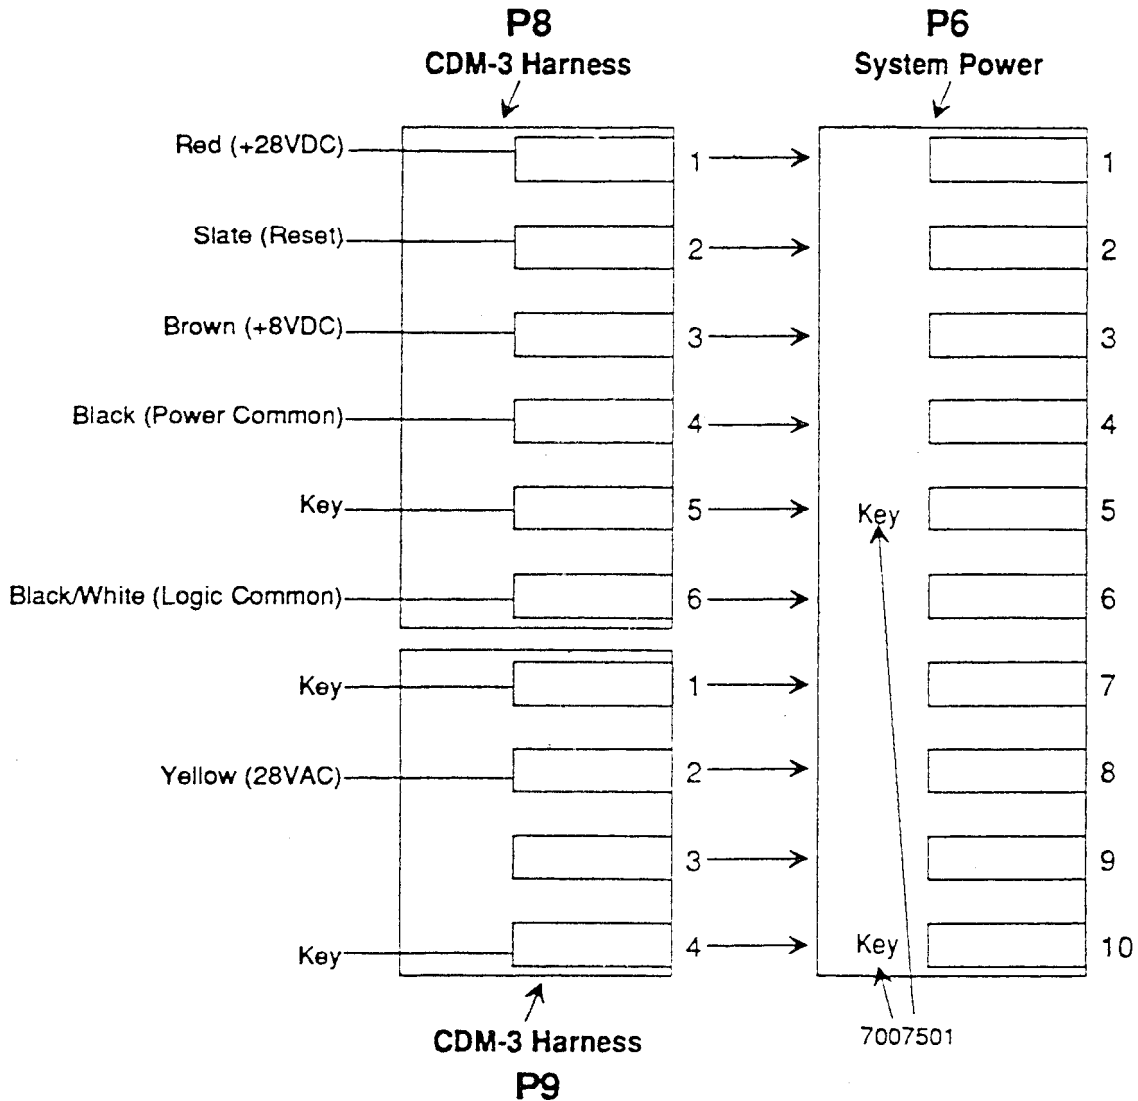

Figure 4
The Main Phonograph harness connections are Rowelink to P8. The audio phono cable plugs and system power connect to P6. The kit contains (1) 10-position connector housing and (2) keying plugs that will mate with P6 system power. To prevent damage to the mech control and the CDM-12 player circuit board assemblies, remove wires from existing connectors P8 and P9 and assemble them into new 10-position housing as shown in *Figure 4*.